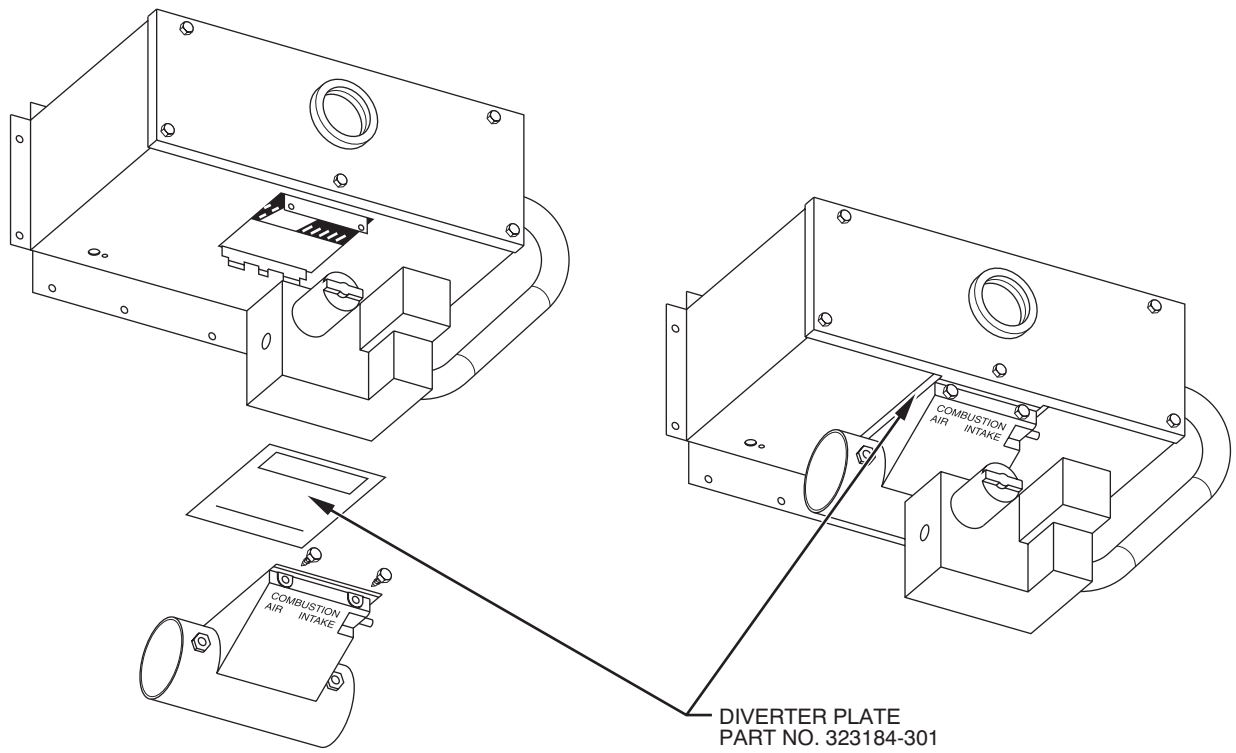

Fig. 55 - Installing Diverter Plate
- d. Install diverter plate 323184-301 provided in kit. (see Fig. 55.)